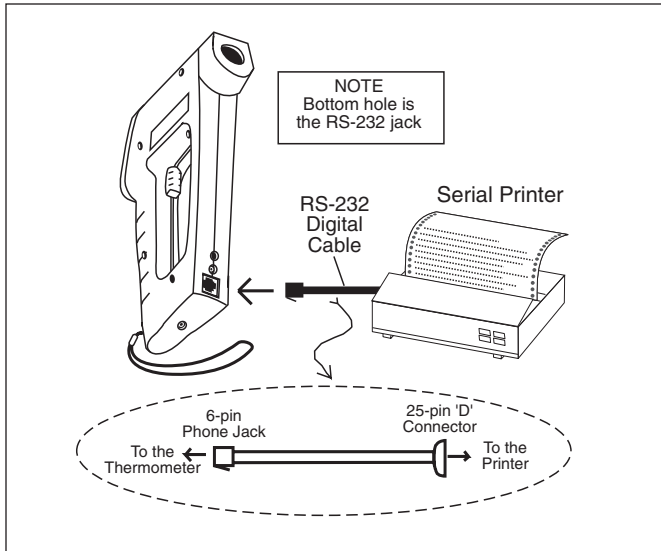

Figure 2-14. Serial Printer Hookup
2. Connect the RS-232 cable between the thermometer and the printer as shown in Figure 2-14.